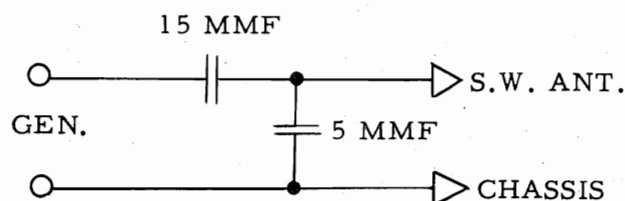

Fig. 1. Shortwave Dummy
5. The "Dummy" shown in Fig. 1 is to be used in steps 2 & 3 in the alignment procedure.